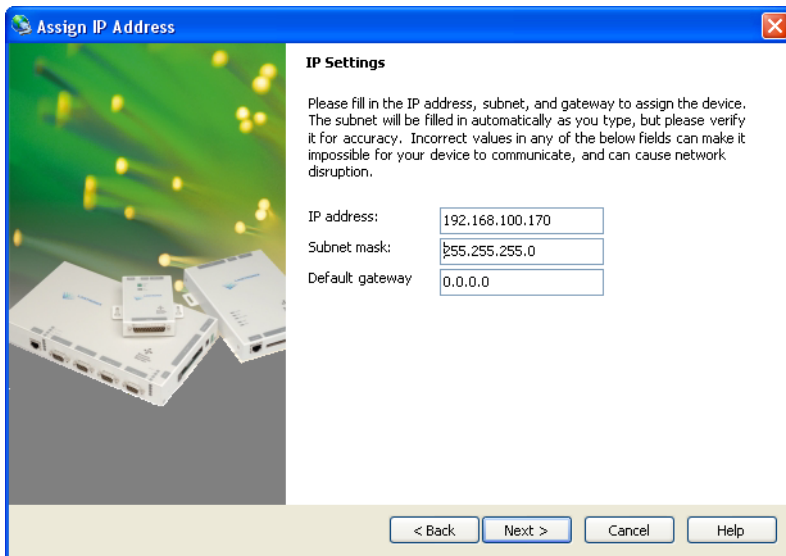

Figure 23: IP Settings Window - Completed
8. Click in the “Subnet mask” field. The Subnet mask is automatically updated to match the IP address entered (see Figure 23 on page 17).